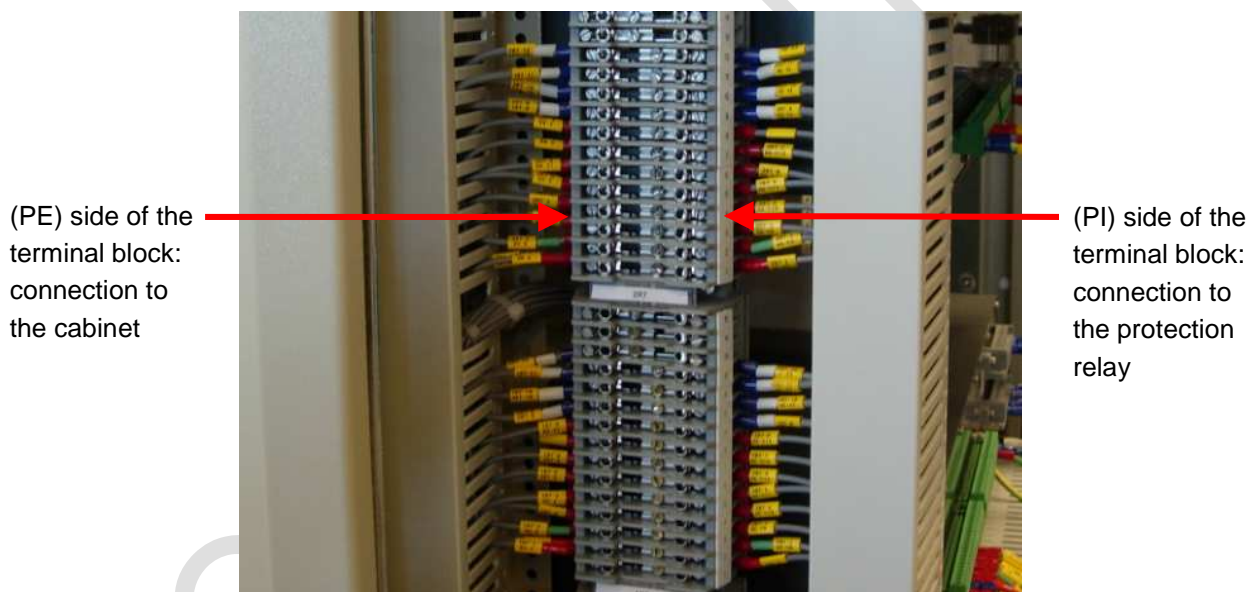

Figure 6. Swing rack terminal blocks
Terminal blocks located on the swing rack (R), shall be a sliding link terminal blocks with a test jack that allows a banana plug type connector, unless otherwise approved by Owner (see table 2). These terminal blocks shall be mounted and centered on the non-hinged end of the swing rack (see figure 6).